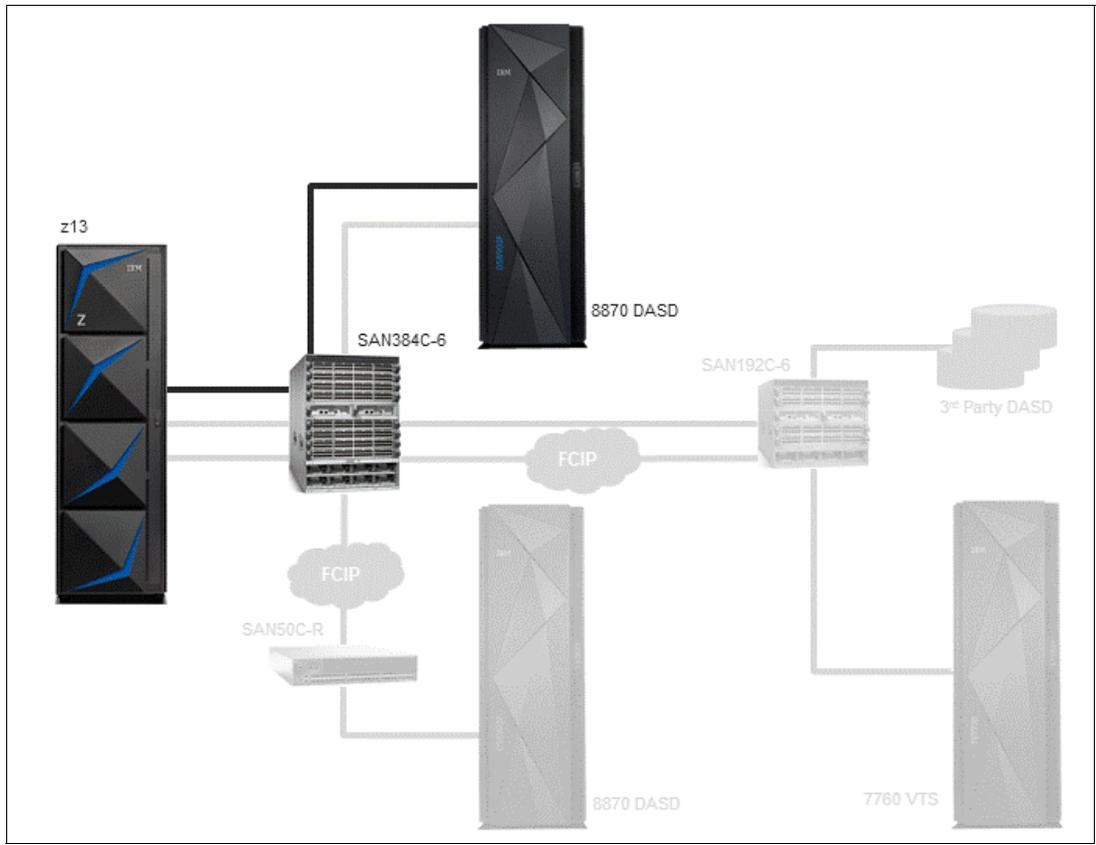

Figure 4-2 Local FICON topology
To represent a local FICON DASD configuration, the test environment includes an IBM Z server that is connected by using 16 Gb Fibre Channel (FC) connections to an IBM Storage Networking SAN384C-6 switch that is connected to an IBM DS8870 server, as shown in Figure 4-2 on page 93.